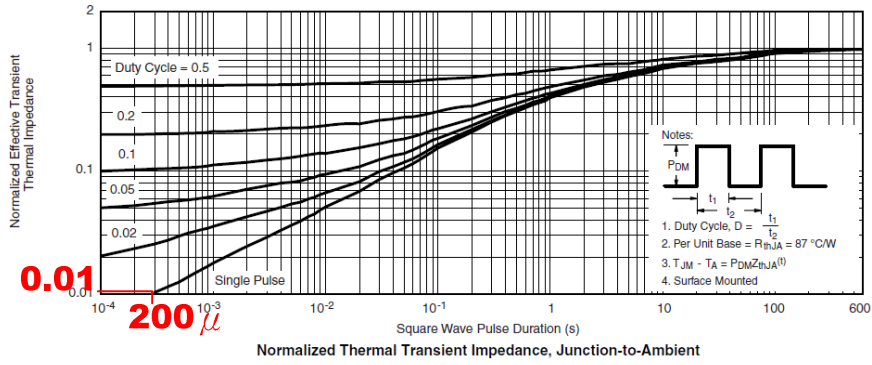

Fig. 5. Maximum effective transient thermal impedance plot, junction to case
- The normalized effective transient thermal resistance is 0.01 shown in Fig. 5.